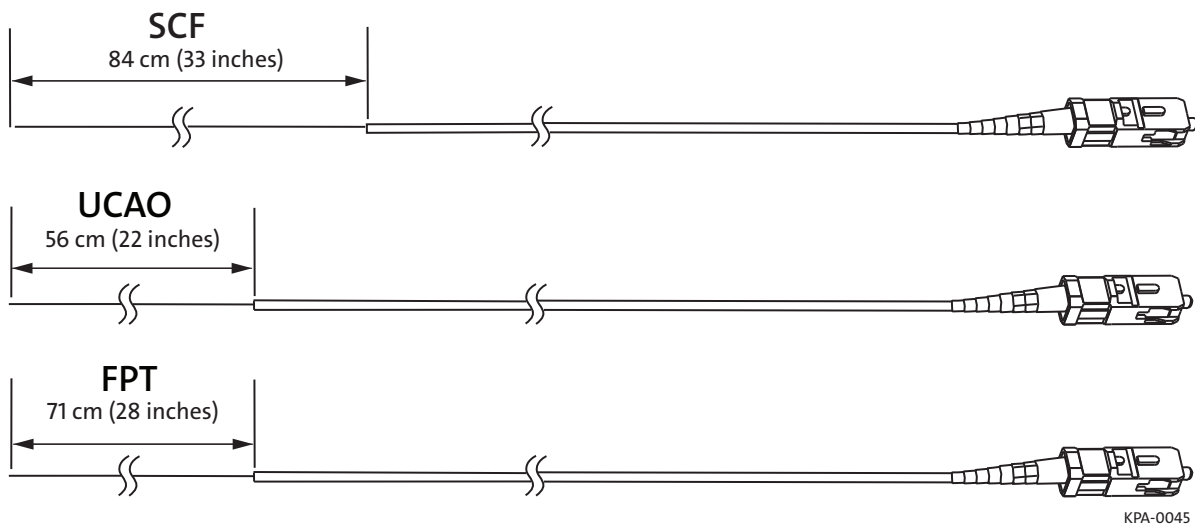

Figure 7
Step 3: Strip pigtail jackets to expose coated fiber (Figure 7).